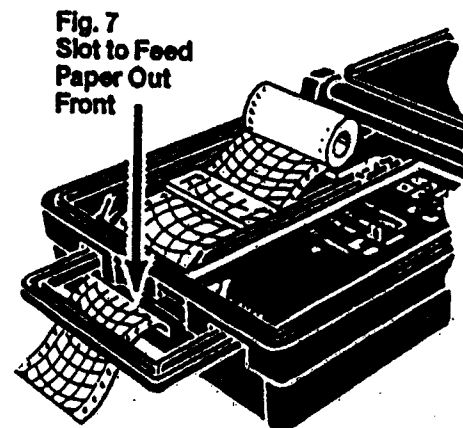

Fig. 7
- Unroll about nine (9) inches of chart paper.
- With printed side up, slip leading edge of paper under the glass and out, through slot in front as shown in fig. 7.
3. Load chart paper. See fig. 7 or 9. Replace cover by positioning the "U" bend onto the metal projections of chart well (non-take-up) and onto molded plastic projections for take-up recorder and then snap front down. Make sure paper is not binding with cover in place.